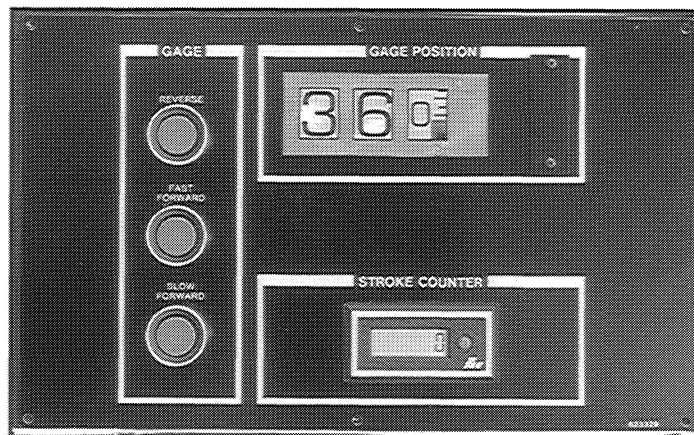

FIGURE 9-27 - Backgage counter
5. Remove the cover over slot in the GAGE CONTROL legend plate. Loosen set screw "R" through the slot in legend plate. Refer to Figure 9-27 for location of set screw "R". Turn the